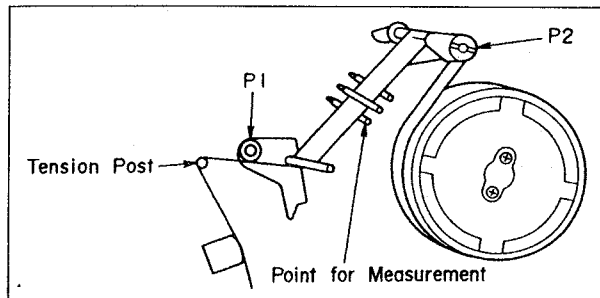

Fig. 22 Measurement of Back Tension
- (1) Playback the cassette tape from the beginning and wait until the tape movement get the stabilization. (for approx. 10 ~ 20 seconds)
- (2) Insert the Back Tension Meter into the path of a tape, and measure the back tension to be within specification as shown in Fig. 22.